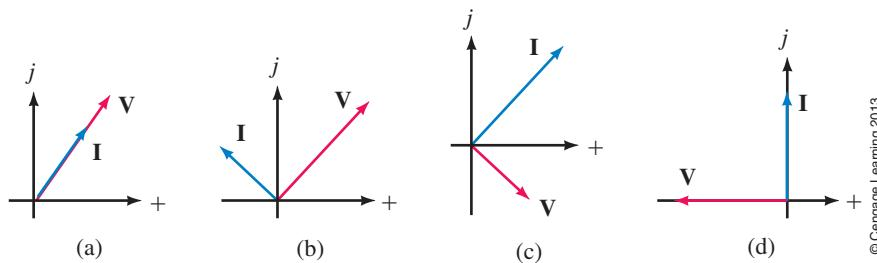

FIGURE 16-37
- For each of the phasor sets of Figure 16-37, identify whether the circuit is resistive, inductive, or capacitive. Justify your answers.